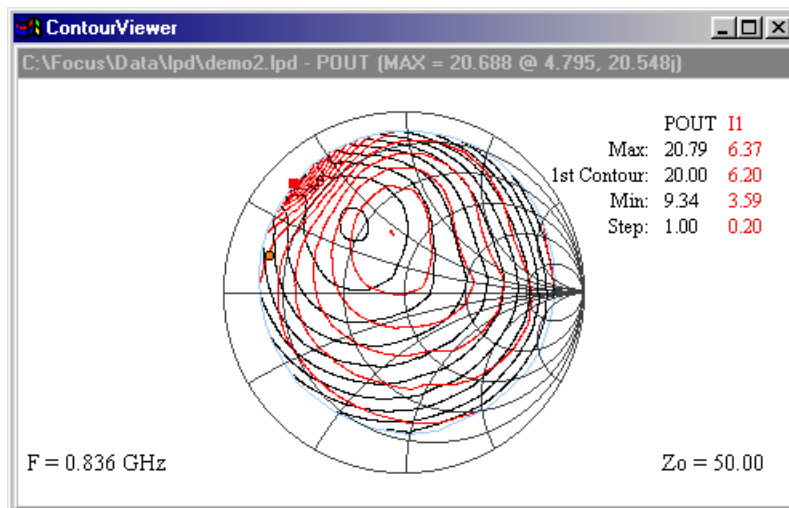

Figure 9: Displaying Multiple Contours
- Display multiple contours on the same plot when in line contour mode (Figure 9).